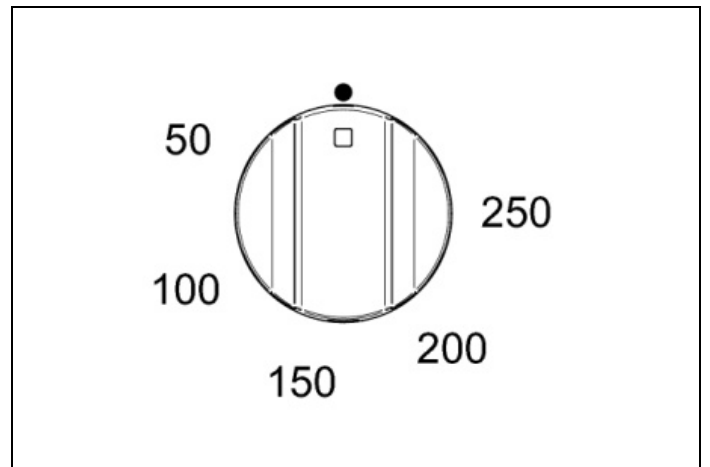
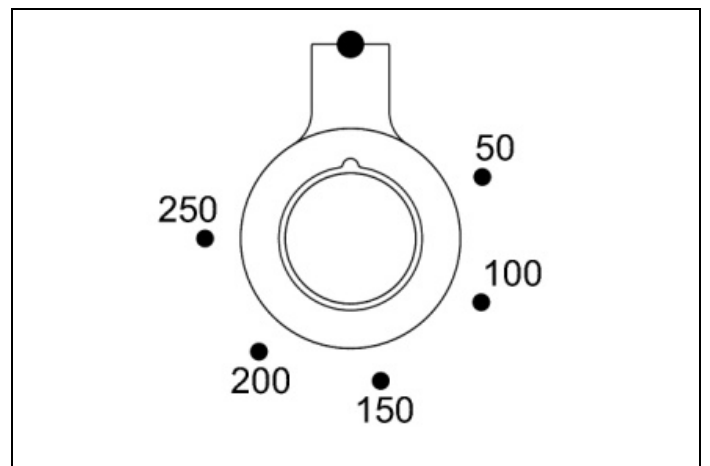
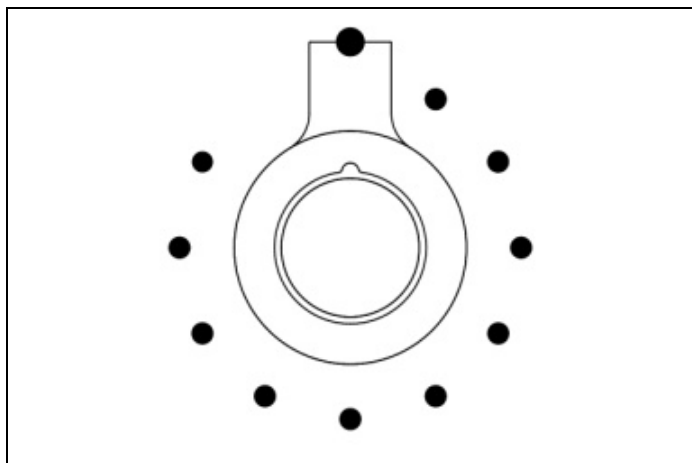

Fig. 27
Fig. 28
Fig. 29
- 2) Turn the temperature knob (Fig. 27 - Fig. 28 and Fig. 29 for the PRO T model only) clockwise to select the temperature required. The orange light turns off once the oven has heated to the chosen temperature and is ready for use. It is normal for this light to switch on and off during cooking, as the heating elements operate to keep the temperature constant. (oven operations is indicated by the programmer display for the PRO T version only).